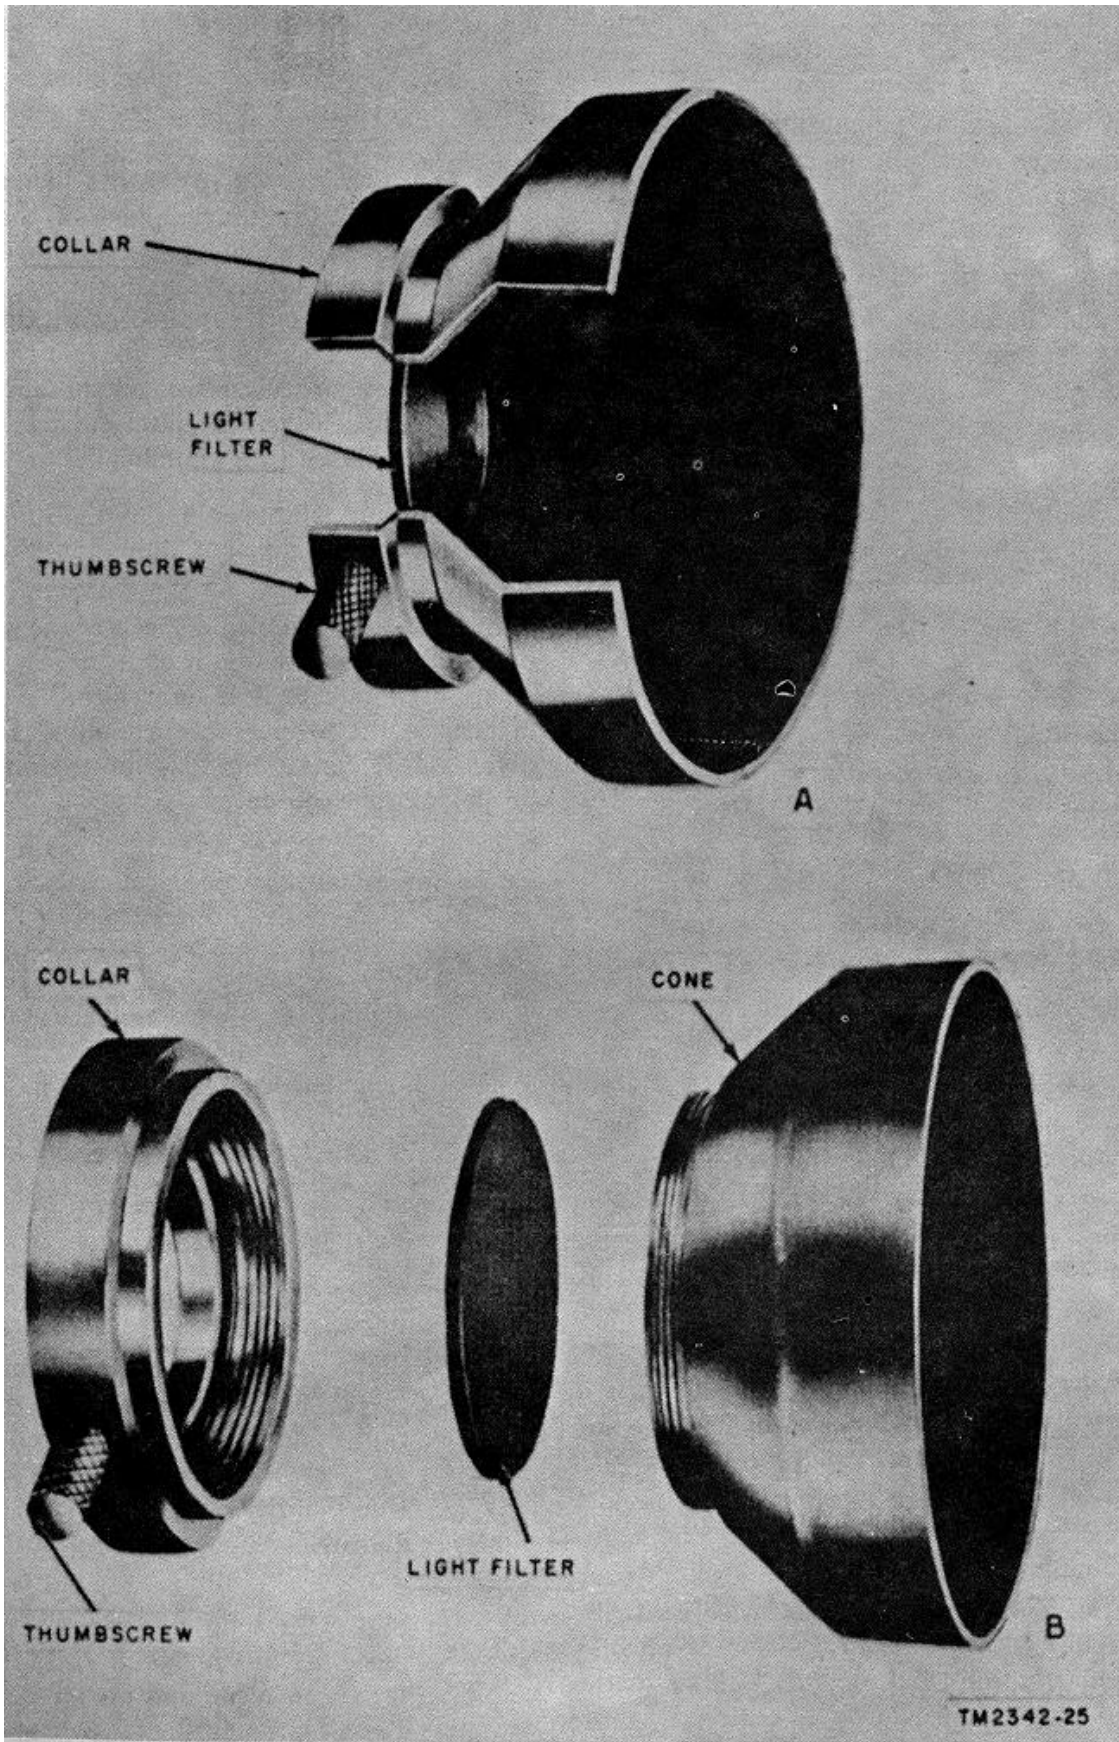

Figure 26. Lens shade and unmounted light filter, cutaway and exploded view.
- (1) Unscrew the cone (B, fig. 26) from the collar.
- (2) Place the desired unmounted light filter (yellow, red, or green) in the recess in the collar.
- (3) Screw the cone (A, fig. 26) on the collar. The cone will hold the light filter in place.
- (4) Mount the lens shade (d above).